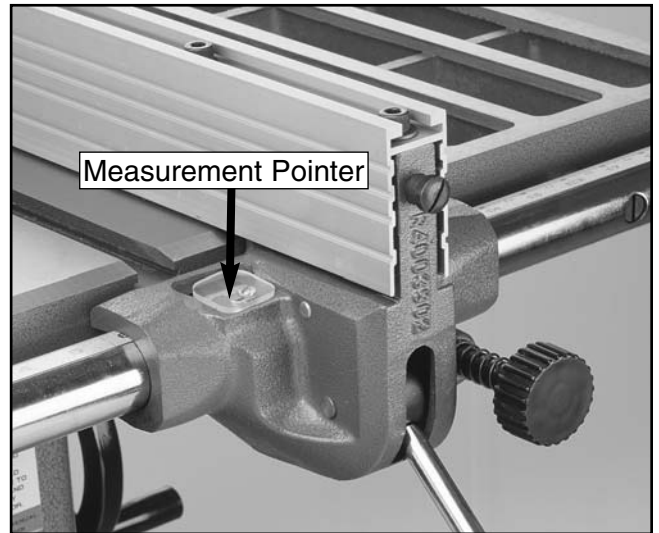

Figure 33. Adjust measurement pointer.
- Once the fence is adjusted, check the measurement pointer shown in **Figure 33**, and adjust if necessary.